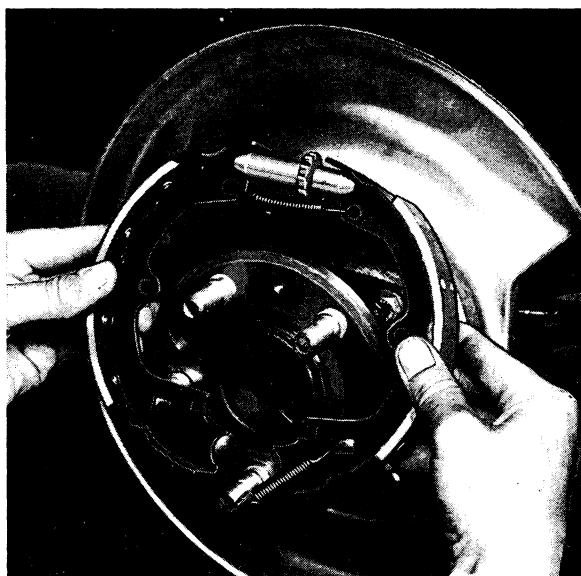
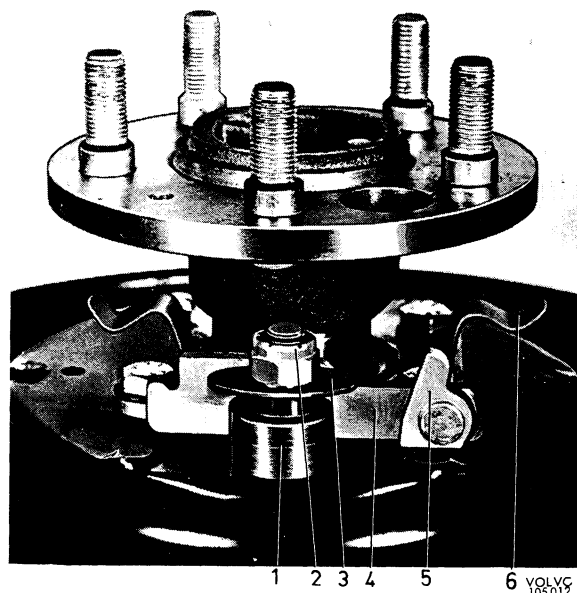
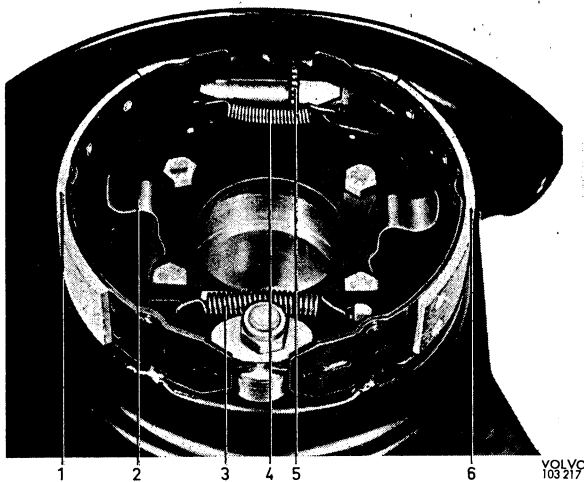

Fig. 5-85. Fitting brake shoes
Fig. 5-86. Brake parts
Fig. 5-87. Parking brake
5. Unhook the lower return spring. Lift the shoes forward, see Fig. 5-85.
3. Check that the lever and anchor bolt parts are correctly fitted, see Fig. 5-86. Fit the brake shoes, see Fig. 5-85. The shorter sleeve on the adjusting device should be turned forwards on the right-hand side and backwards on the left-hand side, see Fig. 5-87.